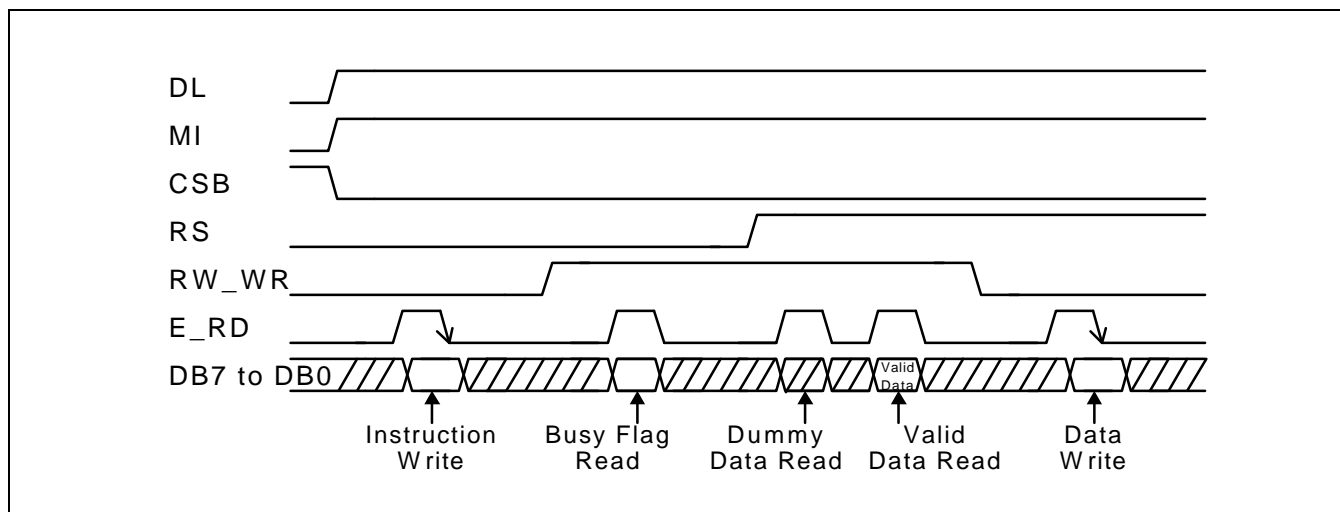

Figure 3. Timing Diagram of 8-bit Parallel Bus Mode Data Transfer (6800-series MPU Mode)
During reading operation, 8-bit output data register (OR) is used. The output data register (OR) is used as temporary data storage place for being read from DDRAM / CGRAM. Destination RAM is selected by RAM address set instruction. After RAM address set, the first reading in the 8-bit bus mode (first and second reading in the 4-bit bus mode) is a dummy cycle (figure 3, 4, 5, 6). The valid data comes from the second reading in the 8-bit bus mode (from the 3rd reading in 4-bit bus mode). The dummy cycle makes the address counter (AC) indicate the correct address. So it is recommended to set address before writing. The instruction read operation is supported for indicating internal operation is being processed (Busy Flag).